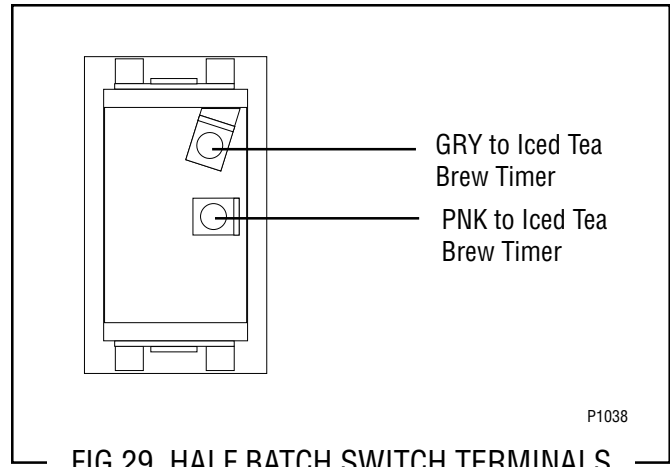

FIG.29 HALF BATCH SWITCH TERMINALS
4. Refer to FIG. 29 when reconnecting the wires.